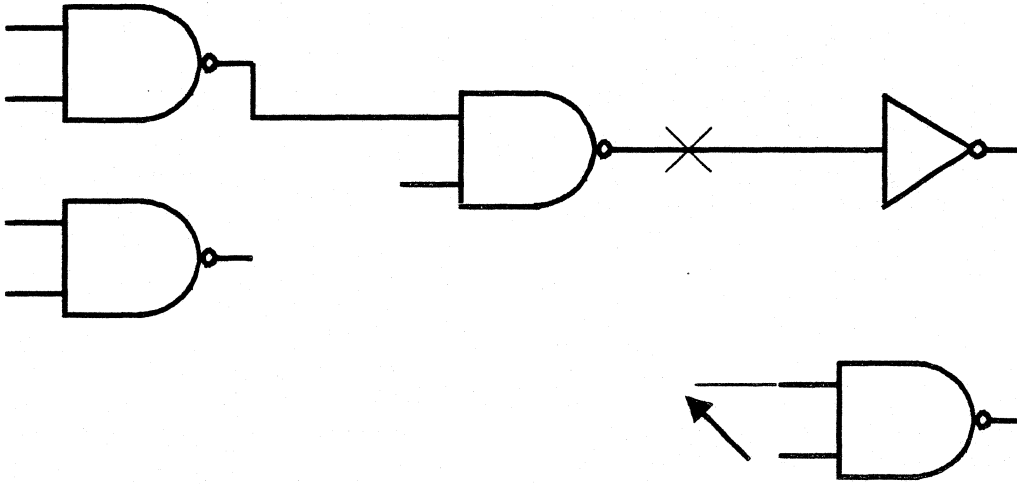
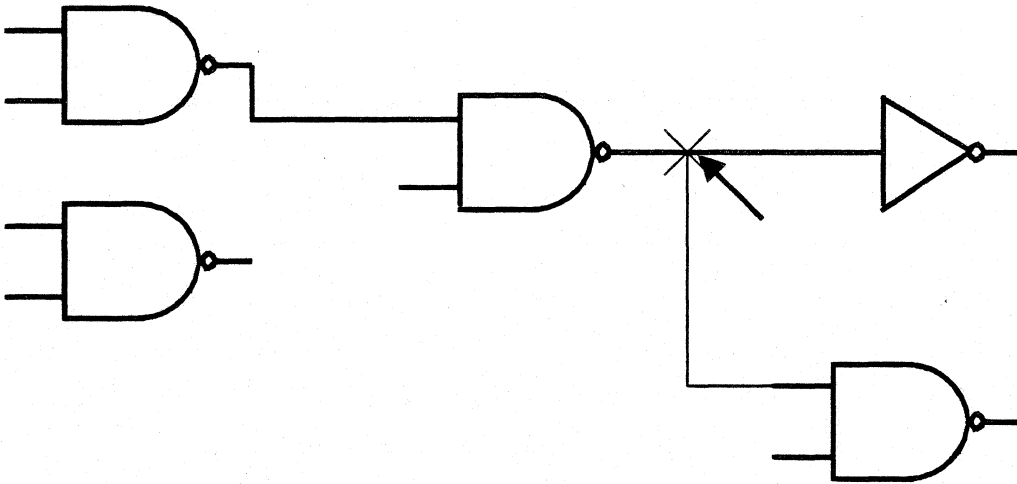

Figure 2.27
Figure 2.28
- 3) Move the cursor to draw the path of the net segment. The "X" moves to the closest junction point or symbol connection point (figure 2.27). When you want to make a 90° bend in the net, press the left mouse button (figure 2.28). If you want to erase the previous bend, press the right mouse button.